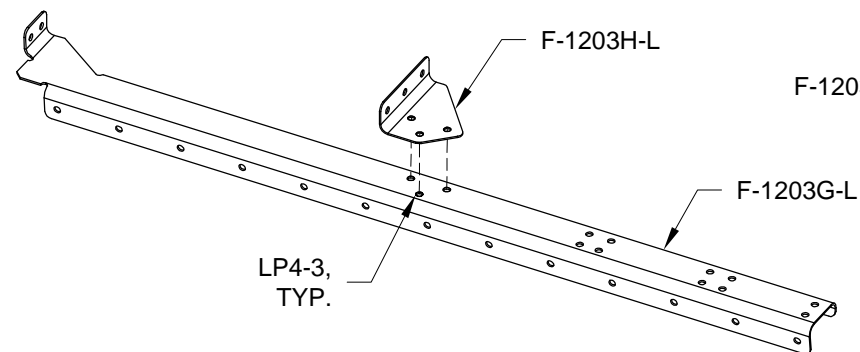

FIGURE 2: INSTALLING THE ARM REST BRACKET
Step 3: Rivet the F-1202E-L and -R Bulkhead Side Channels to the F-1202F Bulkhead per the call outs in Figure 2. Rivet the F-1203G-L & -R Bulkhead Side Channels to the F-1203A Bulkhead.